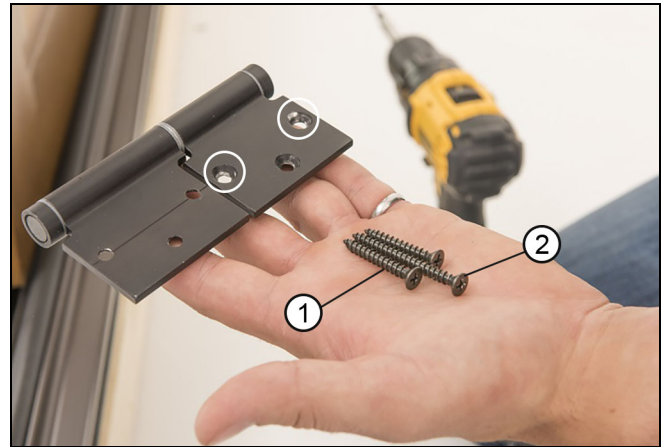

Figure 61
4. Depending on the configuration, install the next panel(s) using the configuration diagram as a guide. For interior hinges 6 or 7, use two shorter screws on hinge leaf attached to the panel with the locking handle. See Figure 61.